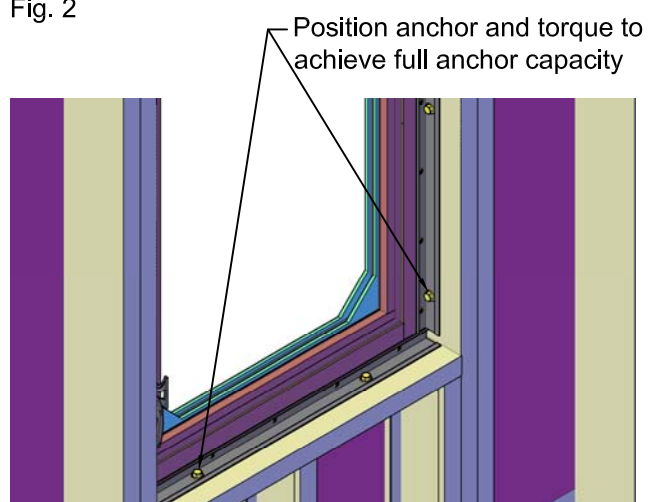

Fig. 4
4) Place the snap trim base into position. If the primary anchors require a pilot hole in the wall substrate, mark the hole locations using the snap trim base. Set the base aside and drill as required. Refer to fastener documentation for hole size. Clean and dust debris and chips as necessary and place the base into position. Blind holes in concrete or CMU will require removal of dust from the hole itself. Replace the trim base and insert a primary anchor on each end and tighten it. Install the back anchors to secure the window to the snap trim base. Repeat this process on all four sides. Insert the balance of the primary anchors into position and torque them as required to achieve full anchor capacity. See Fig. 4